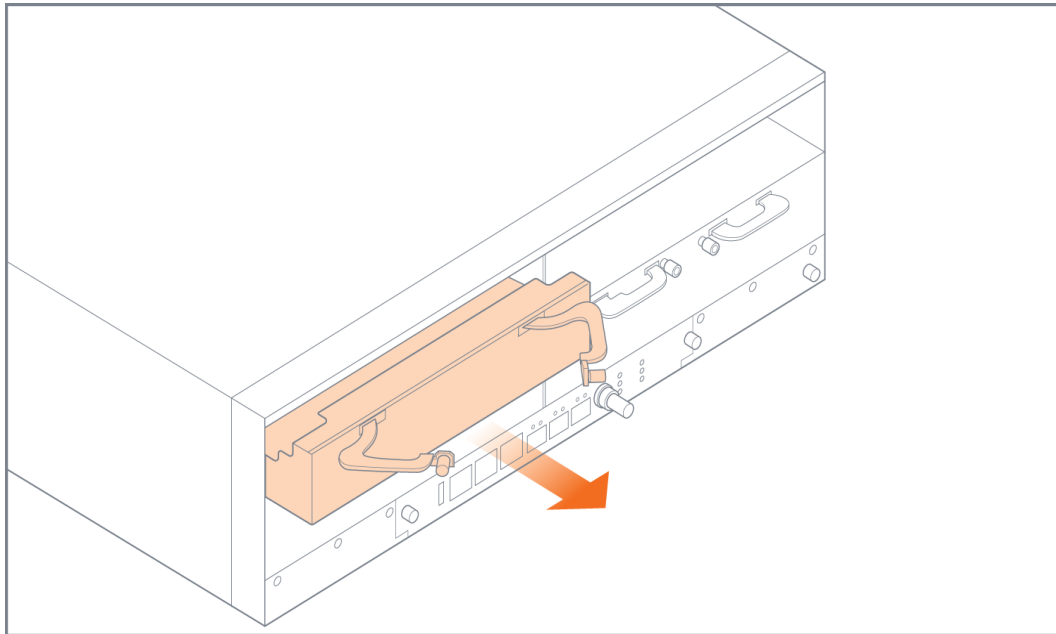

Figure 3-10: Filler Panel Removal
6. Remove a filler panel as shown in Figure 3-10 on page 67.